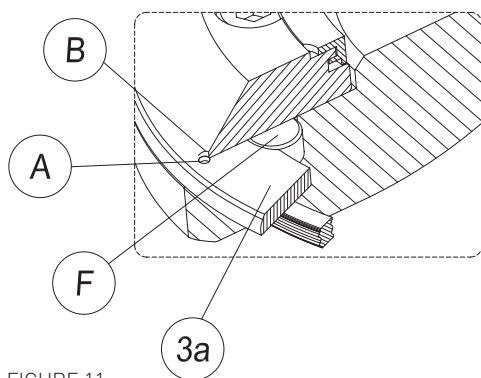

FIGURE 11
10. Replace the seal ring (3a) on the disc through the shaft side of the body. To properly locate the seal ring refer to figure 11: align the internal slot of the seal ring (3a) to the reference pin (F).
11. Assemble the retainer flange (2b). Refer to figure 11: make sure that the slot on the edge of the retainer flange (B) matches the reference pin (F).
Refer to figure 11: